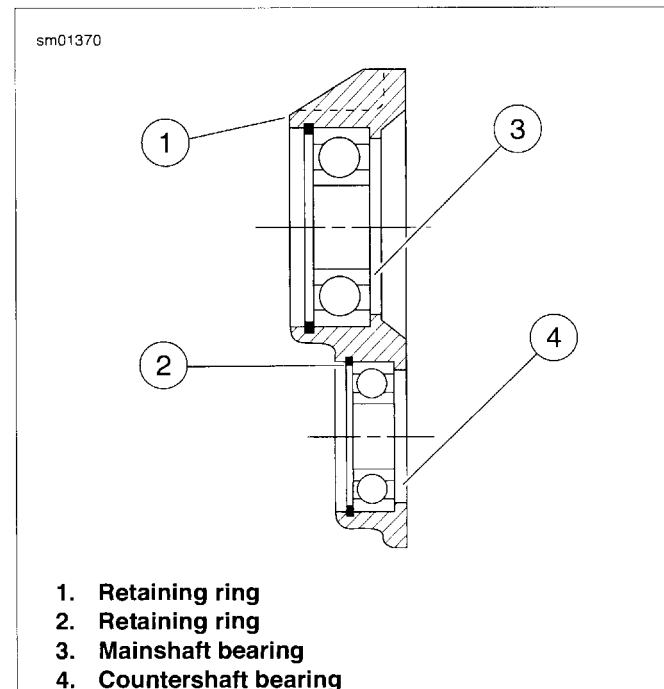

Figure 5-93. Ball Bearing Assembly
4. See Figure 5-93. If bearing replacement is required, remove retaining rings (1, 2) using SNAP-ON SNAP RING PLIERS (Part No. PR-36). Press out bearings (3, 4) from the inside of the crankcase.